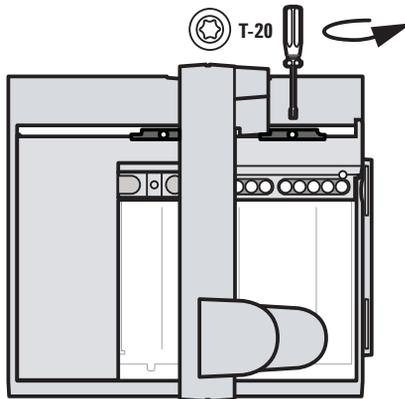

Figure 5 Removing the T-20 screw from the shipping clamp
- 2 Using a T-20 Torx driver, remove the T-20 screw from the shipping clamp (Figure 5).